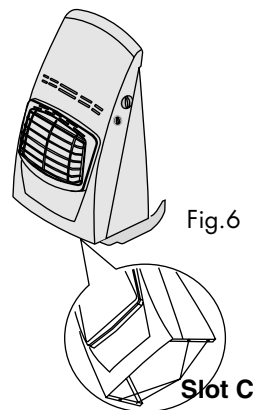

Fig.6
- 2) Position the heater's front panel assembly over the base plate, and align the four tabs "B" on the base with the four slots "C" in the bottom of the front panel assembly. With the four tabs correctly engaged, push the front panel assembly forwards as far as the tabs will slide in their slots to align the screw holes "A" in the base plate with the screw holes "D" in the bottom of the front panel assembly (fig.6).